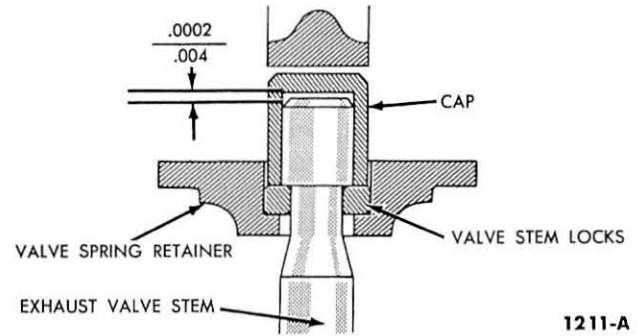
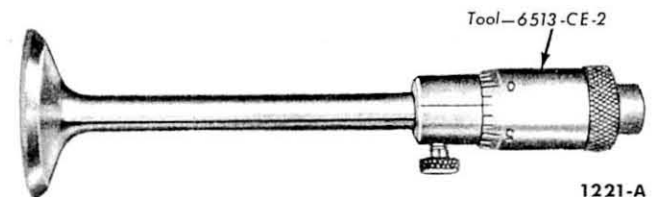

Fig. 20—Valve Clearance—Free Turning Valve
Fig. 21—Measuring Valve To Cap Clearance—Free Turning Valve
**FREE TURNING VALVE TO CAP CLEARANCE.** The free turning-type exhaust valve (ECR 272, 302, and 332 cubic inch engines) requires a clearance of 0.0002-0.004-inch between the end of the valve stem and the inside of the cap (Fig. 20). This is necessary so that the cap can carry the valve spring pressure permitting the valve to rotate. The clearance can be measured before the valve is installed with a micro gage (Fig. 21). If the clearance is greater than 0.004 inch, reduce the clearance by lapping the open end of the cap on a smooth surface.